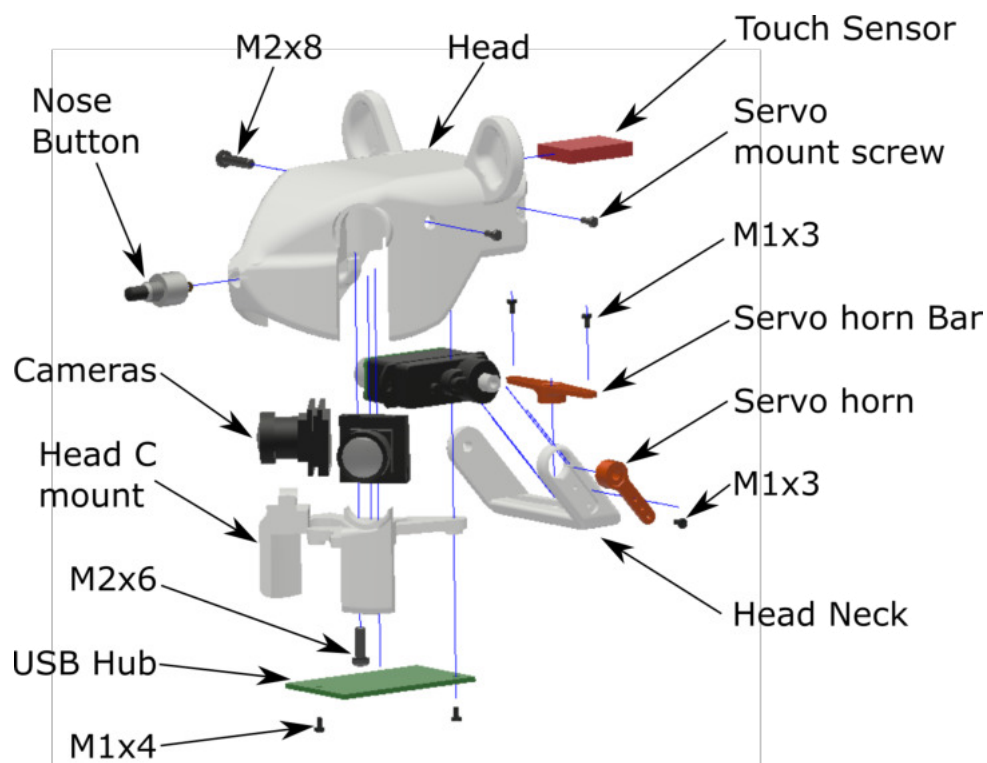

Fig. 20. Head Module components
- A Assemble the Neck with all servo horns as shown in Figure 20 and attach it to the head servo (ID 4). **Make sure the motor is set to its centre (0800) position.**